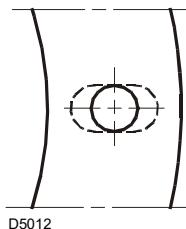

Fig. 7
- if necessary, widen the holes of the insulating gasket 4) Fig. 7).